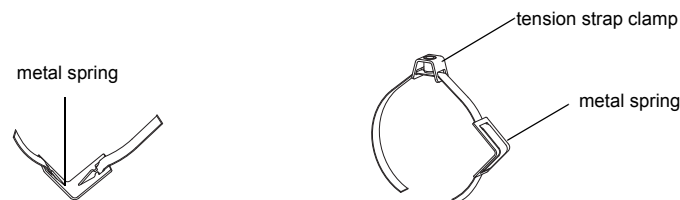

Fig. 9.40: Tension strap with the metal spring and the tension strap clamp
- Insert the long end of the tension strap into the tension strap clamp and the metal spring (see Fig. 9.40). It is not necessary to mount the metal spring: